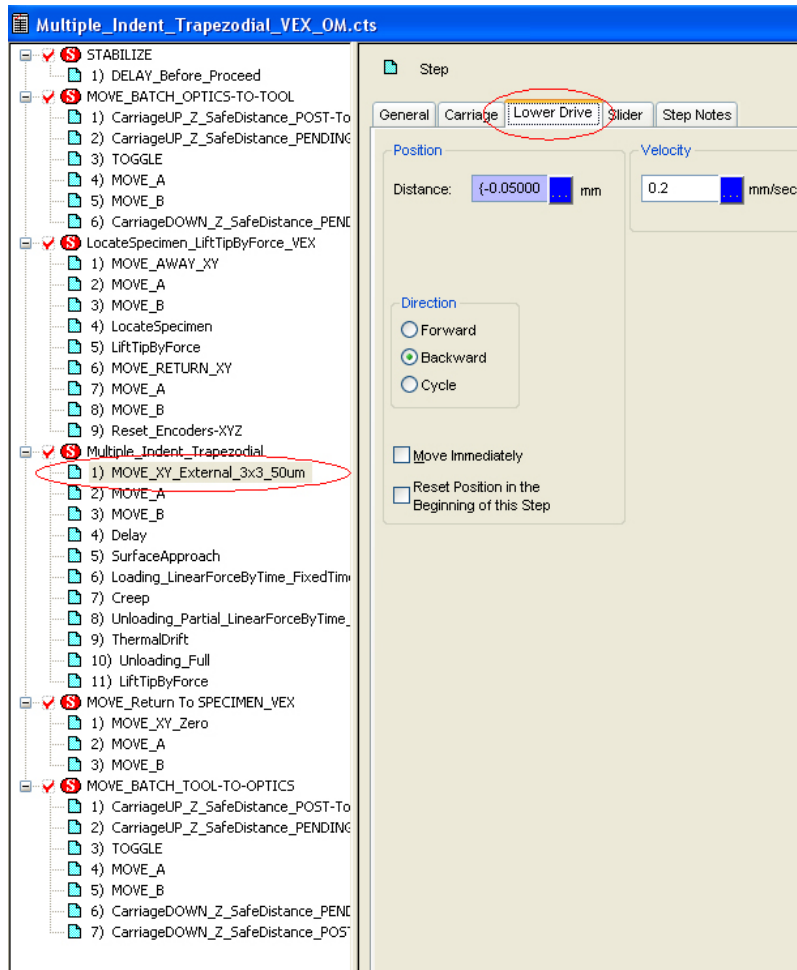

Figure 20: Location of the lower drive (Y) movement control for the grid spacing.
- a. Navigate to the 4th Sequence and the 1st step, then select the "Lower Drive" tab as shown in Figure 20.